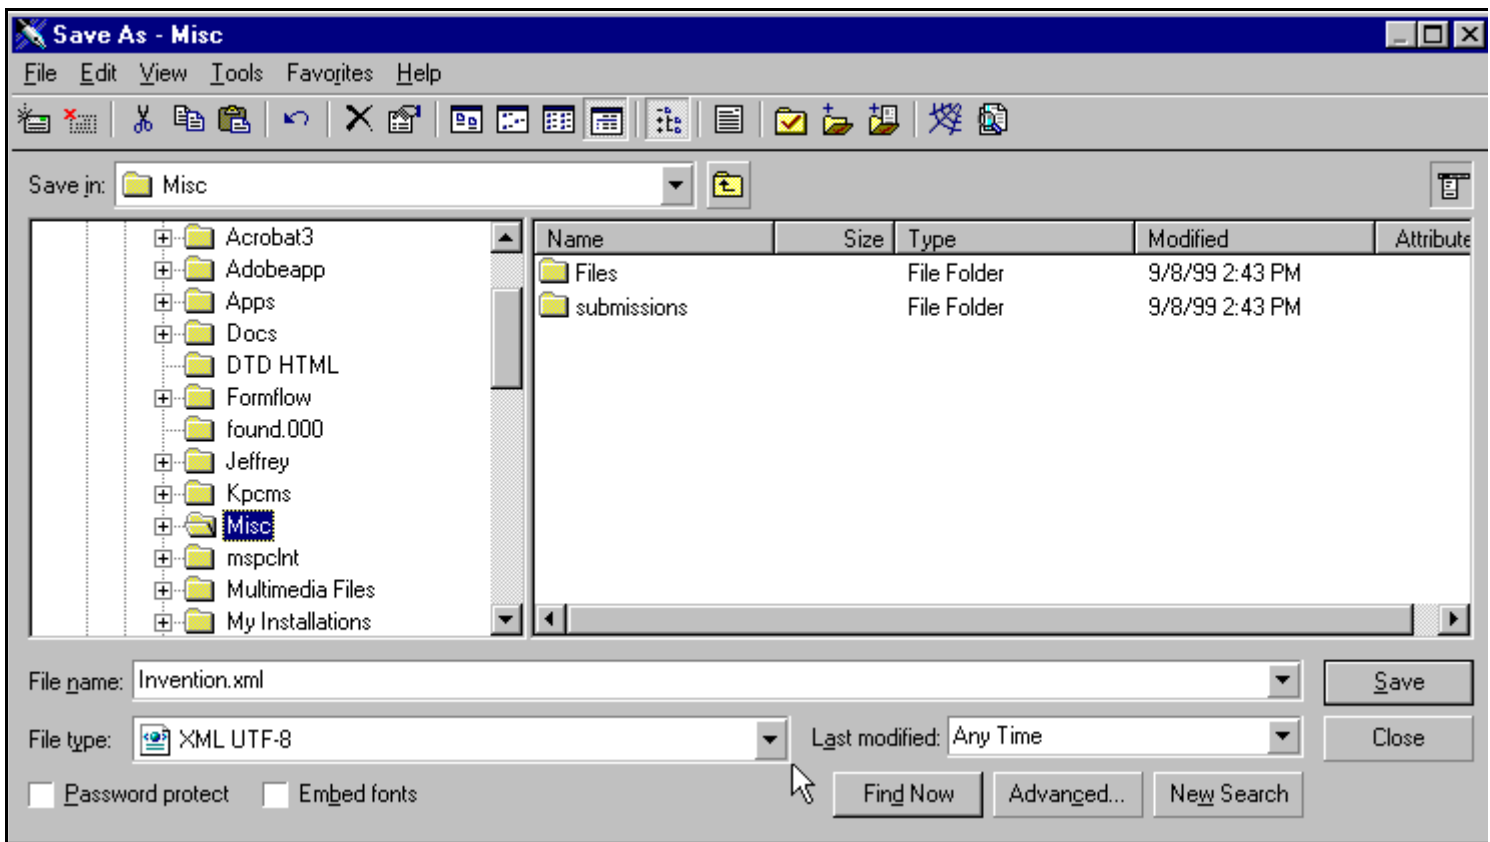

Figure 5-10 Save As Window
3. From the **File** menu select **Save As**. The **Save As** window appears (see Figure 5-10).